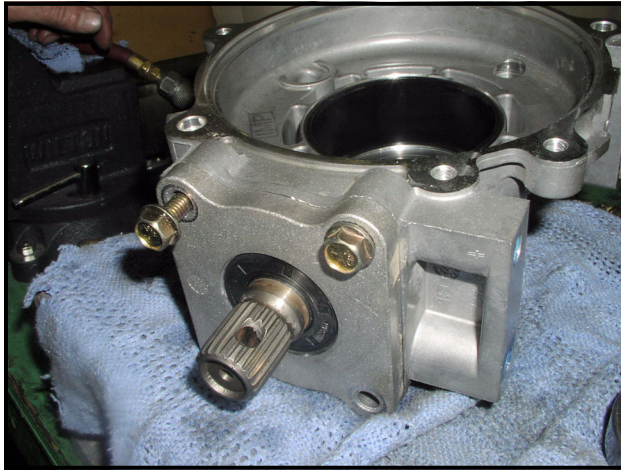

Figure 9-24 Input Cover Plate Bolts
10. Remove input cover plate bolts (**Figure 9-24, Page 9-9**).